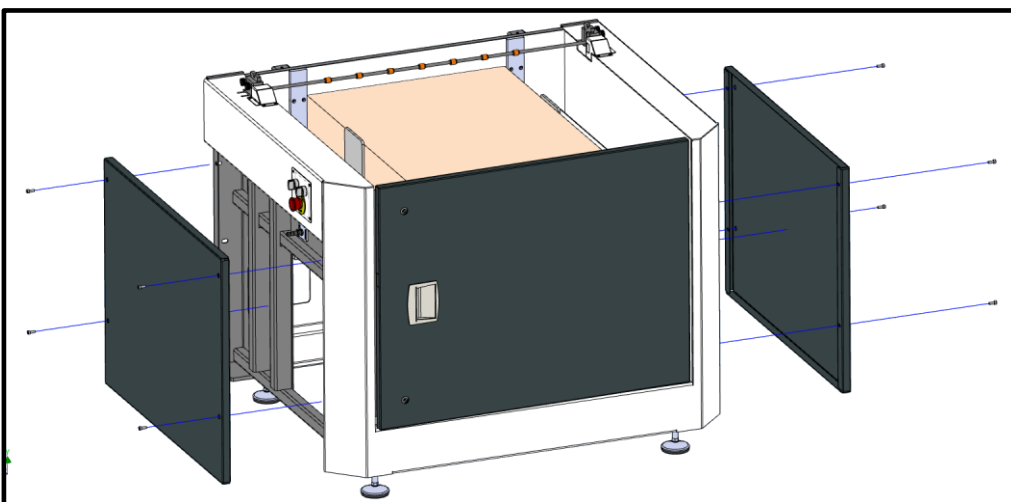
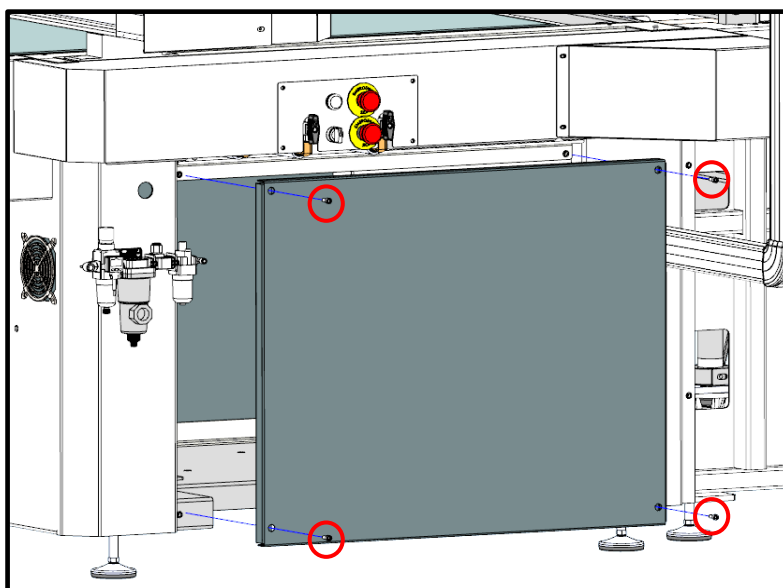

Figure 5-16
Figure 5-23
- Close the machine panel and the loader panels removed previously (Figure 5-23 and Figure 5-16).
- Open the machine's door (Figure 5-23)
- Remove the machine panel (Figure 5-23)